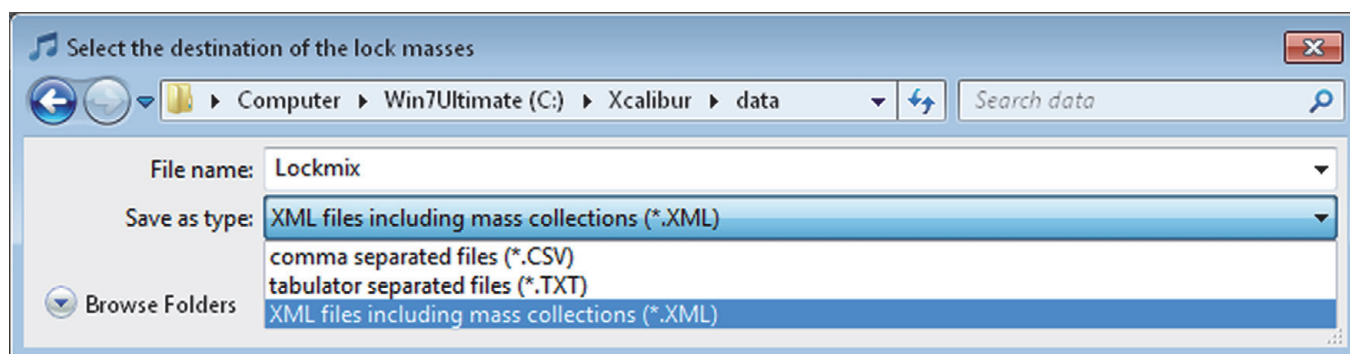

Figure 5-2. Selecting the lock mass export file
3. Choose **Export > Copy selected to file** to open the file selection dialog box. See Figure 5-2.